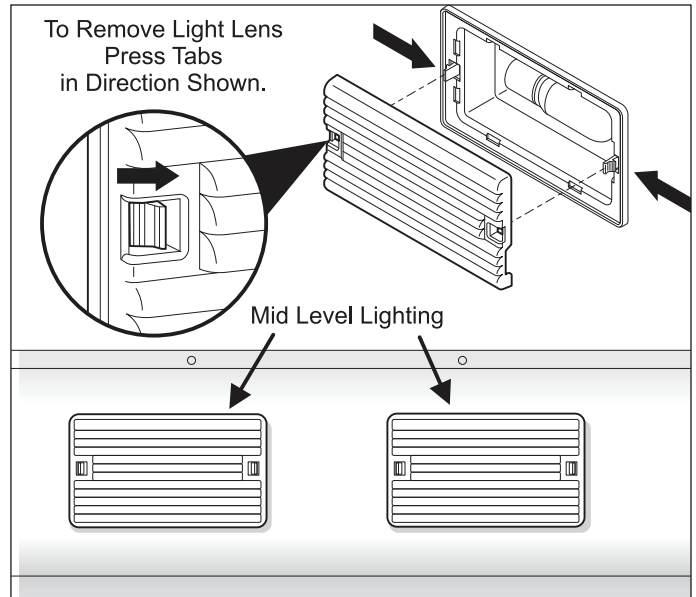

Figure 6-51. Mid Level Lighting Removal
2. Remove the lens from the lamp housing by unsnapping it from the lamp housing using your fingers or a screwdriver. Be careful not to break the locking tabs on the lamp housing. (See Figure 6-51)